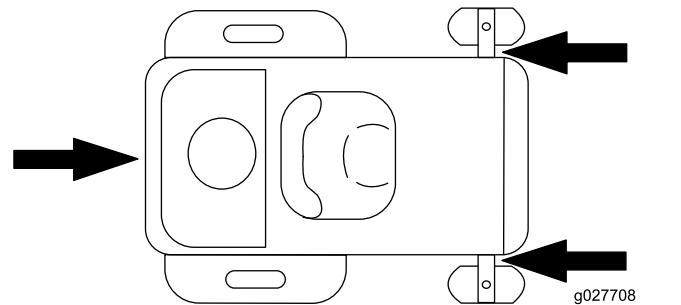

Figure 27
6. Tie down the machine near the front caster wheels and the rear bumper with straps, chains, cable, or ropes (Figure 27). Refer to local regulations for tie-down requirements.